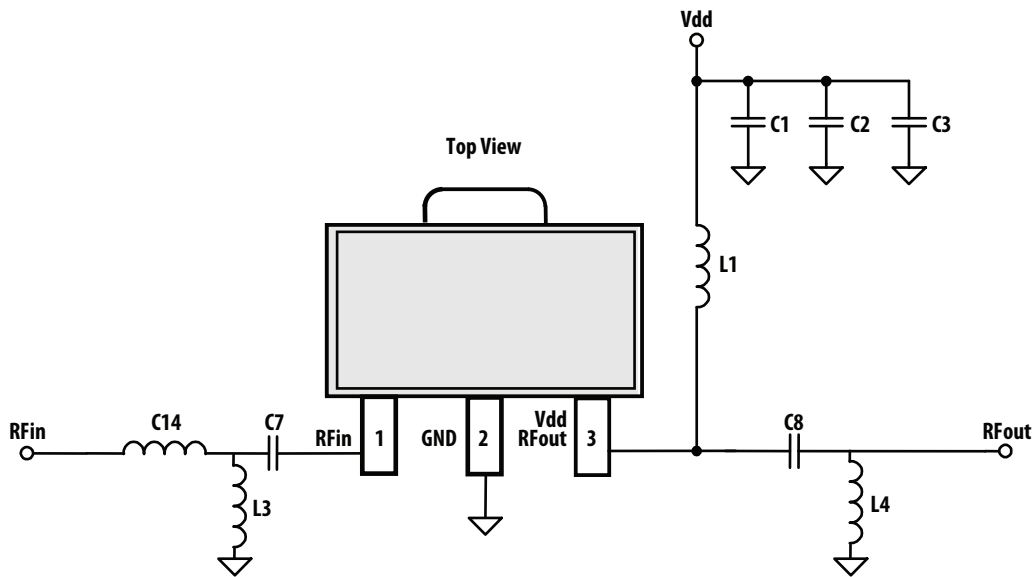

Figure 30. Application Schematic
1. Measurements obtained using demo board described in Figure 30 and 31. 3.5GHz data was taken with 3GHz - 4GHz Application Test Circuit and 5GHz data with 4GHz - 6GHz Application Test Circuit respectively.
$T_A = 25^\circ\text{C}$ ,  $V_{dd} = 5\text{V}$ , Input Signal = CW unless stated otherwise. Application Test Circuit is shown in Figure 30 and Table 1.
$T_A = 25^\circ\text{C}$ ,  $V_{dd} = 5\text{V}$ , Input Signal=CW. Application Test Circuit is shown in Figure 30 and Table 2.
TA = 25°C, Vdd = 5V, Input Signal=CW. Application Test Circuit is shown in Figure 30 and Table 2.
TA = 25°C, Vdd = 5V, Input Signal=CW. Application Test Circuit is shown in Figure 30 and Table 3.